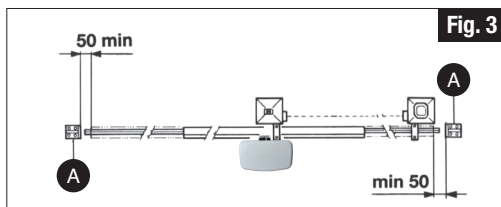

Fig. 3
- Besides the electrical or mechanical limit switches available on the operators, there must be, on both ends of the installation, a fixed mechanical stopper which stops the gate in the unlikely event of bad functioning of the limit switches on the operators. For this reason the fixed mechanical stopper must be of an adequate size to withstand the static and kinetic forces generated by the gate (A) (Fig. 3).